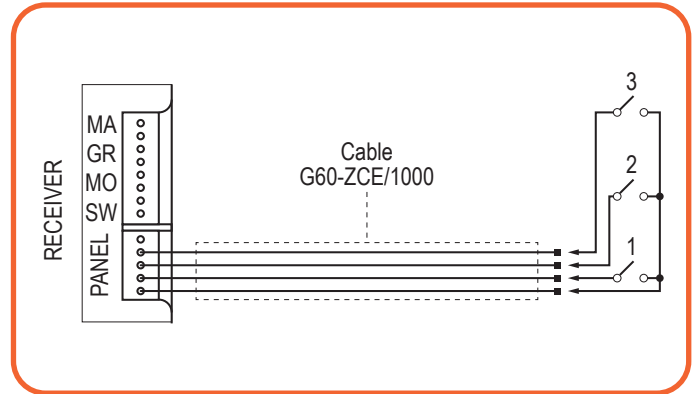

Figure 15.3 - Operation sequence overview
15.5.2 Sequence of operation (Figure 15.3)